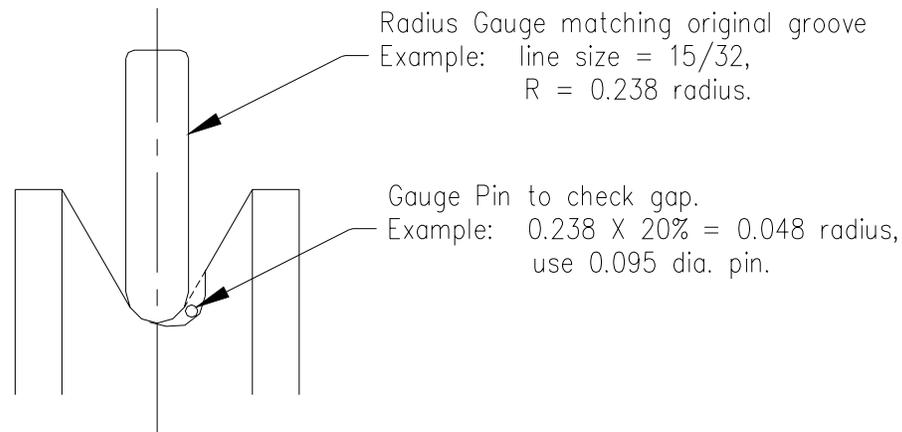

Figure 1. Wheel Groove Inspection
- ❑ Inspect the wheel groove for wear. See figure 1. Insert a radius gauge corresponding to the original groove size listed in **doc. # WTI-16**. If the groove has worn more than 20%" from its original form, recommend wheel re-grooving to the customer. Wheels can be re-grooved up to 0.250" deeper than their original dimension. Minimum diameters at the bottom of the groove are 11.75" for 14" sheave, 14.75 for 17" sheave, and 23.5" for 26" sheave. If the wheel cannot be re-grooved within these parameters, recommend replacement.